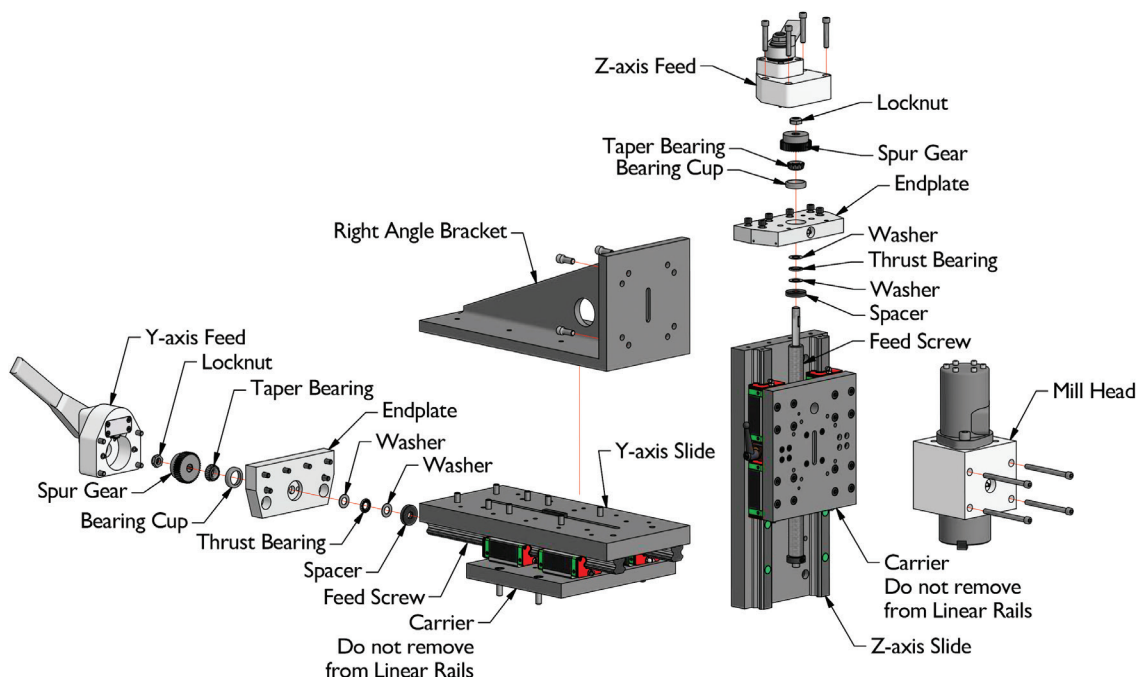

Figure 13 - Y-Z axis Slide Assembly Maintenance
4. Inspect the Y-Z axis slide assembly for damaged or excessively worn components. See Figure 13 for Y-Z axis slide assembly details. Clean metal chips from the slides and rails with compressed air. Inspect the feed screws for wear or damage. Replace worn or damaged components as necessary. Apply anti-seize lubricant to screw threads.